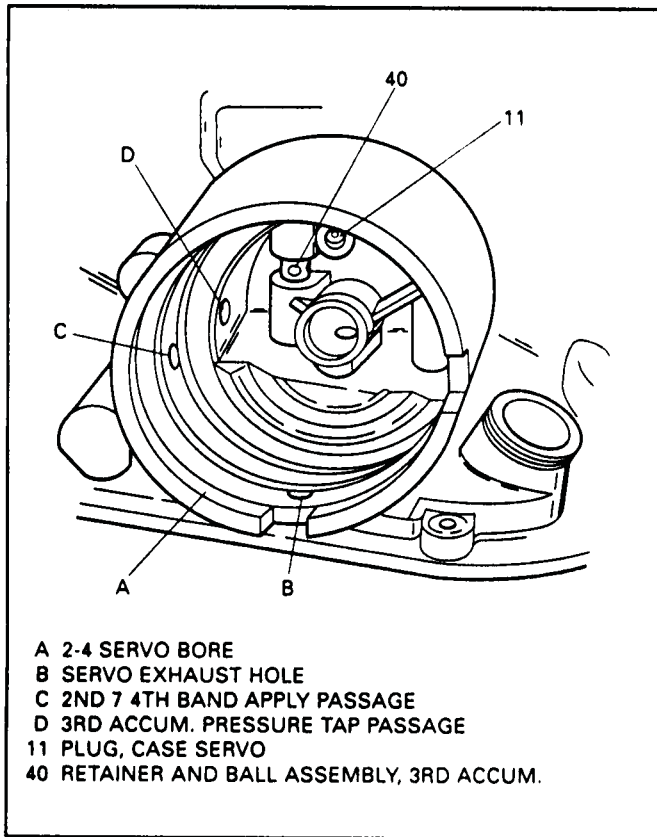

Figure 57
4. Insure that the orifice cup plugs are still in the servo bore, and the 3-4 accumulator bore (See Figures 57 & 59).
3. Install capsule so that "Windows" in the capsule are as shown in Figure 57, viewed thru the servo bore